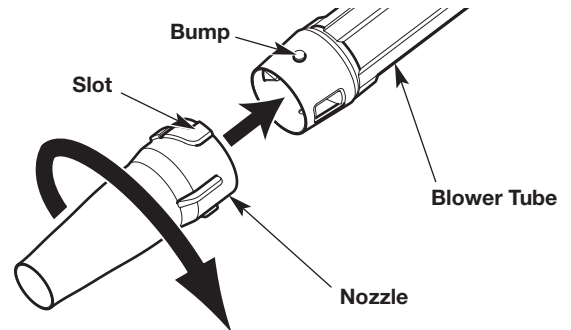
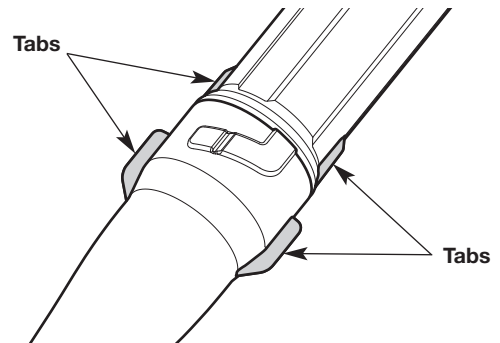

Fig. 2
Fig. 3
2. Align the slots on the nozzle with the bumps on the lower end of the blower tube (Fig. 2).
3. Install the nozzle onto the blower tube (Fig. 2).
4. While holding the blower tube, twist the nozzle clockwise until it locks into place (Fig. 2). The tabs on the blower tube should align with the tabs on the nozzle (Fig. 3).